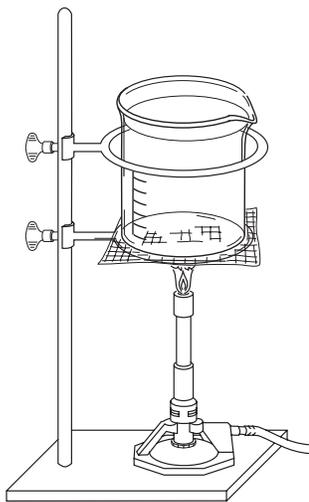

Figure 1 Heating a beaker
2. Add 20 mL of distilled or deionized water to the solid in the beaker. Place the beaker through a ring attached to a ring stand, as shown in Figure 1. Rest the beaker on a ceramic-centered wire gauze on a second ring attached to the ring stand **making sure that the beaker is at least partially under a fume hood.**